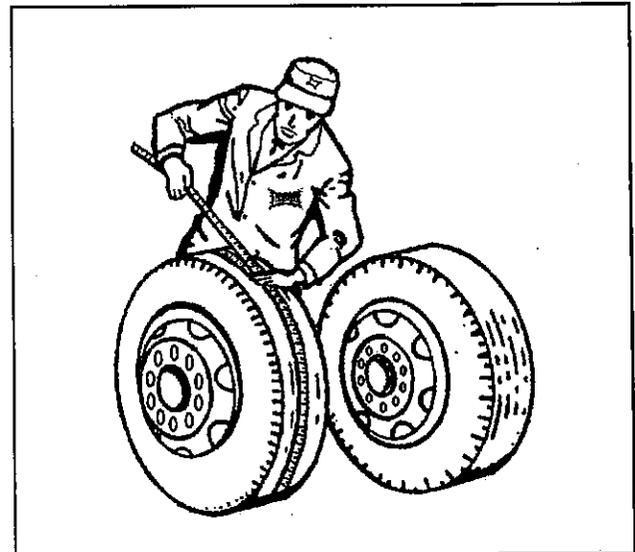

Figure 4-10 Tape Measuring Method
a. Tape Measuring Method.: Measure around each tire on the tread surface. A maximum difference of $3/4$ " is allowed between the two mating tires of a dual (See **Figure 4-10**).